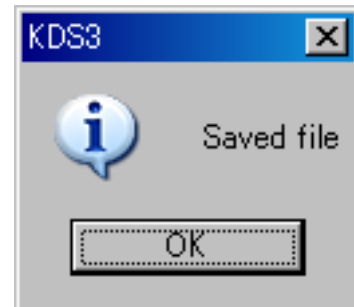

**Fig. 6-12 Save Folder**
- Fig. 6-12 appears, select a folder and press *Enter* (or *Save*) to save the data as a **CSV** file.